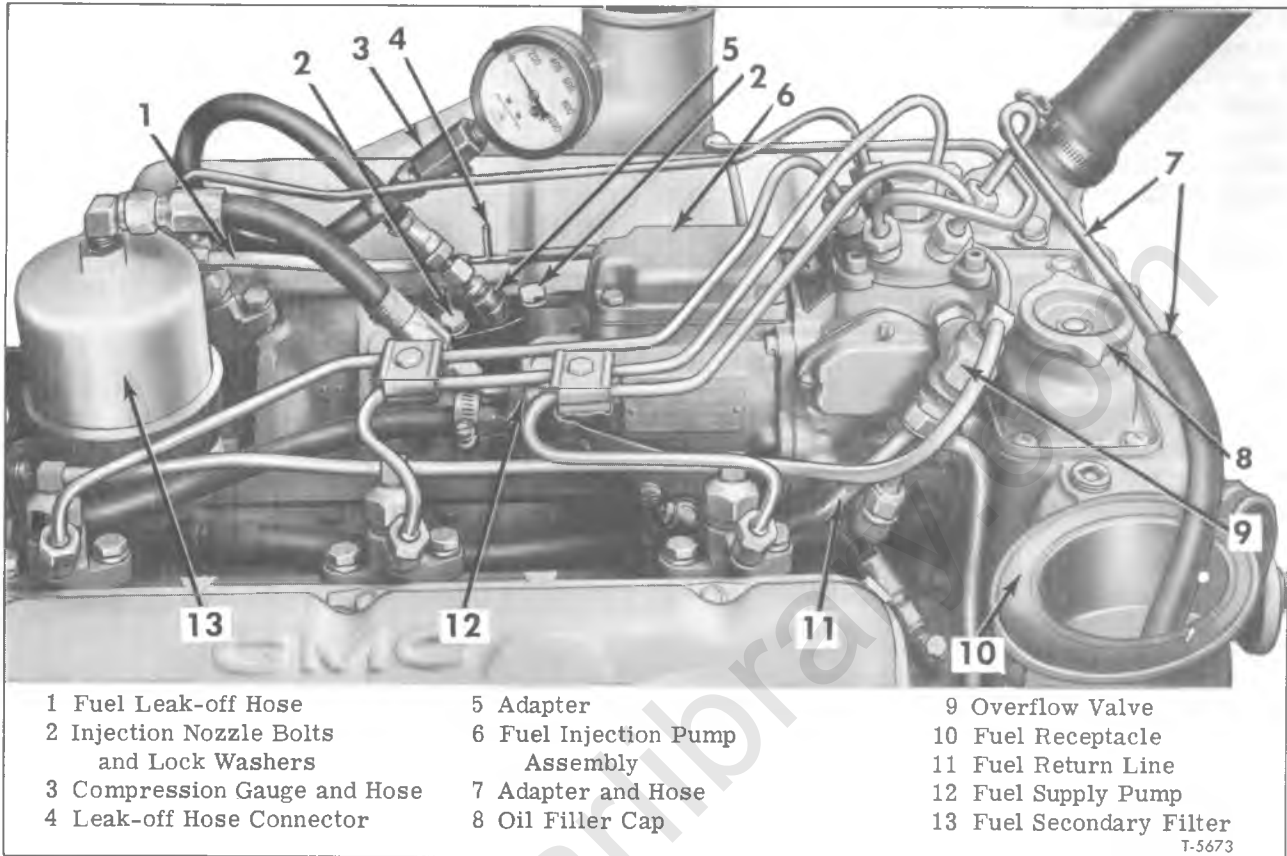

Figure 2—Gauge and Adapter for Checking Cylinder Compression
over with starter to blow loose carbon out of combustion chamber and nozzle holder cavity. Use a nozzle holder copper gasket at bottom of well and install the compression gauge adapter (J-21735-02) in place of nozzle holder as shown in figure 2, using the nozzle holder bolts to hold the adapter in place. Connect gauge to the adapter. Be sure all connections are tight.
5. Install adapter and hose (7, fig. 2) in outlet port in hydraulic head on injection pump and place hose in receptacle to catch fuel oil while running the engine.